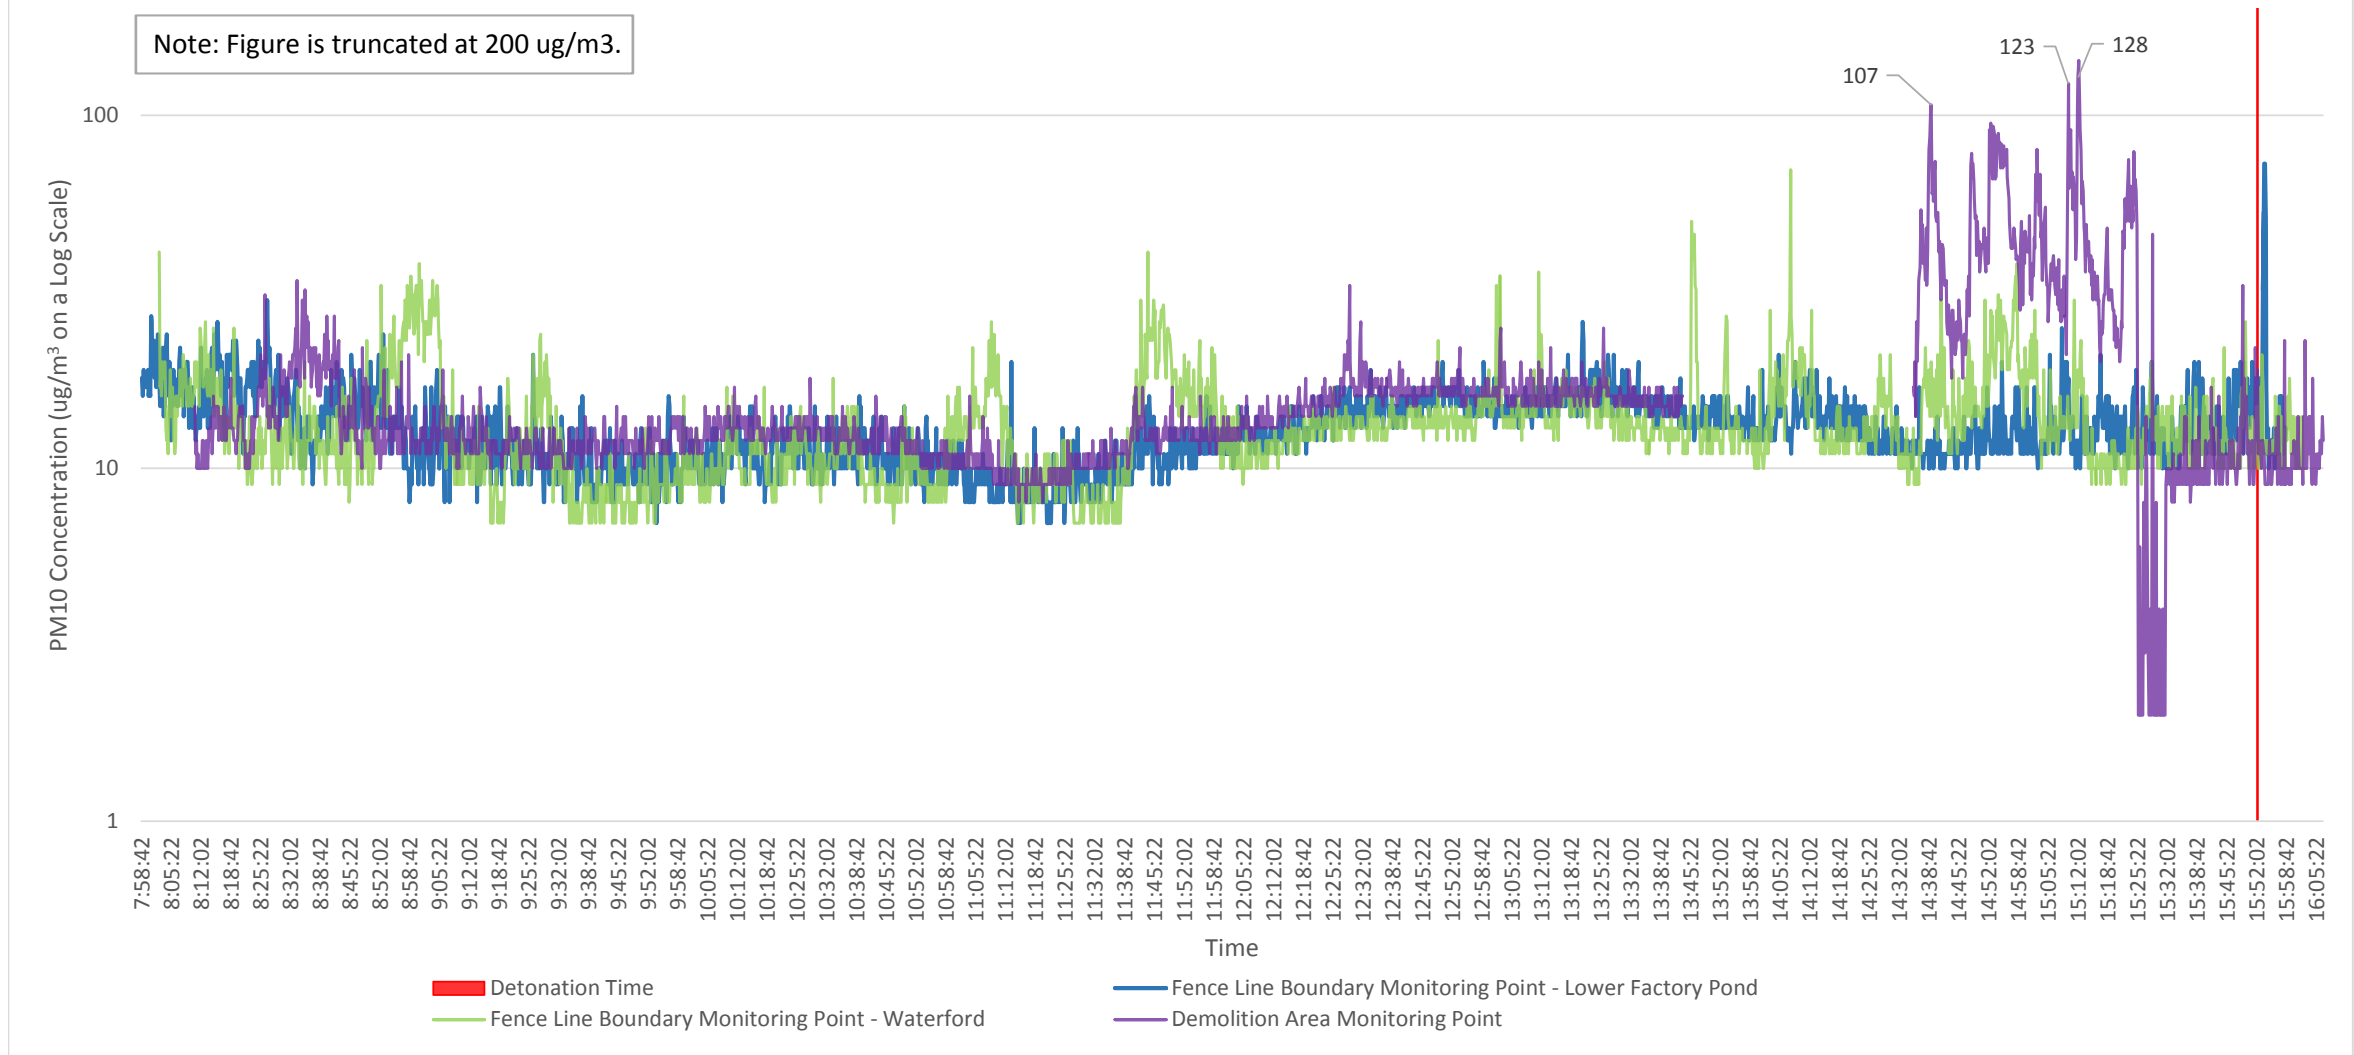

Figure 3-18. Time Series for PM2.5 Concentrations on 8/9/17
- Figure 3-18. Time Series for PM2.5 Concentrations on 8/9/17